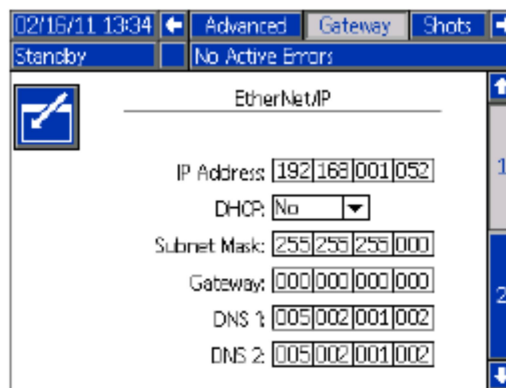

FIG. 10: EtherNet/IP Fieldbus Screen 1
2. Press the left arrow key once to navigate to the main Gateway screen. See Fig. 10.